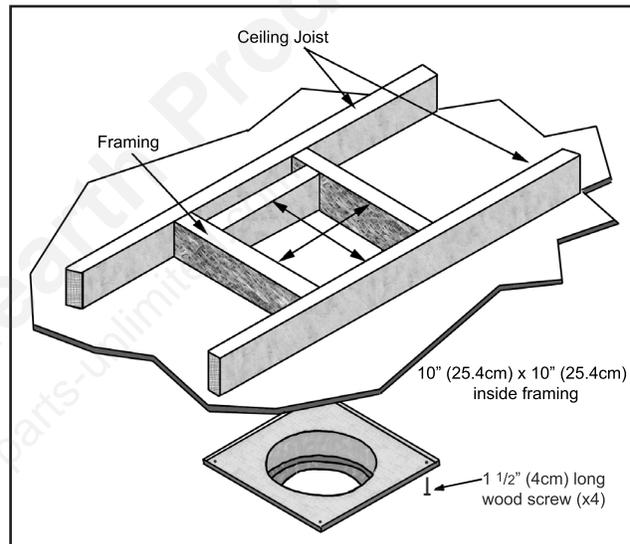
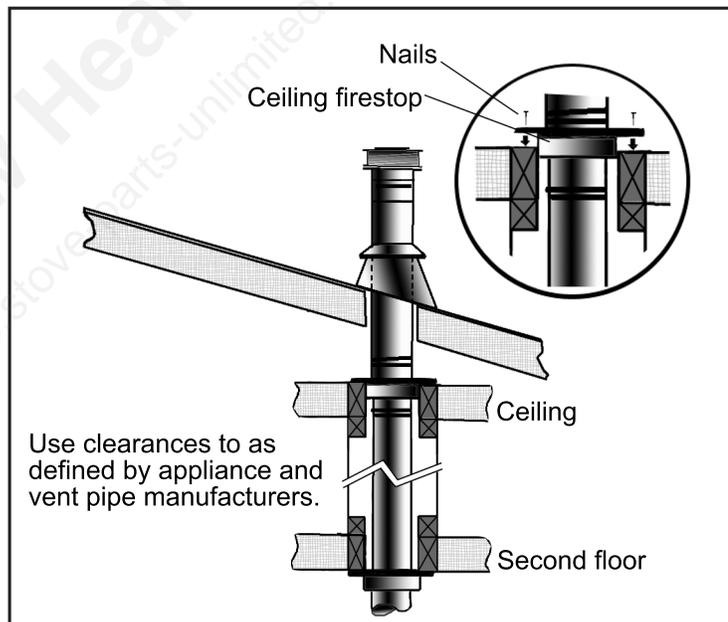

Figure 28: Wall Framing Hole for Vertical Installation.
Figure 33: Multi-Story Vent Pipe Installation.
- (c) For multi story installations. A ceiling firestop is required at the second floor, and any subsequent floors (see Figure 33). The opening should be framed to 10" (25.4 cm) x 10" (25.4 cm) inside dimensions, in the same manner as shown in Figure 28.